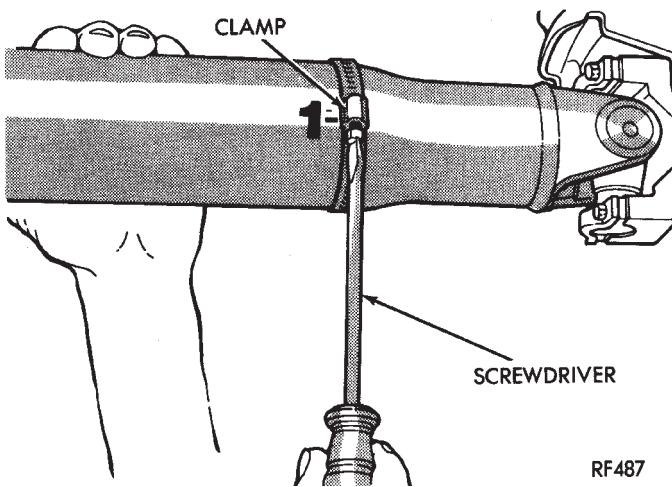

Fig. 7 Clamp Screw At Position 1
(3) Inspect the propeller shaft for missing balance weights, broken welds, and bent areas. **If the propeller shaft is bent, it must be replaced.**
(4) Inspect the universal joints to ensure that they are not worn, are properly installed, and are correctly aligned with the shaft.
(5) Check the universal joint clamp screws torque.
(6) Remove the wheels and tires. Install the wheel lug nuts to retain the brake drums or rotors.
(7) Mark and number the shaft six inches from the yoke end at four positions 90° apart.
(8) Run and accelerate the vehicle until vibration occurs. Note the intensity and speed the vibration occurred. Stop the engine.
(9) Install a screw clamp at position 1 (Fig. 7).